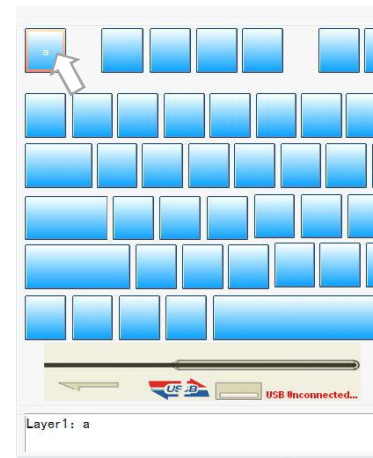

*Figure 3.1.6*
**Step 5.** Return to main interface, please click [ **Write** ] to send the key value to keyboard. It will inform you : keyboard data is successfully written!!, see *Figure 3.1.6* and click “OK”